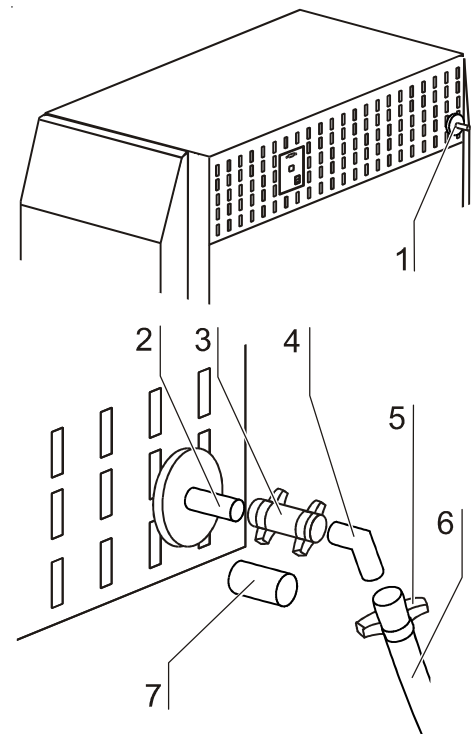

Fig. 21,
1. **Fig. 21:** The gas supply is established through the sterile filter [1] at the rear of the device and the supplied flexible gas pressure hose.